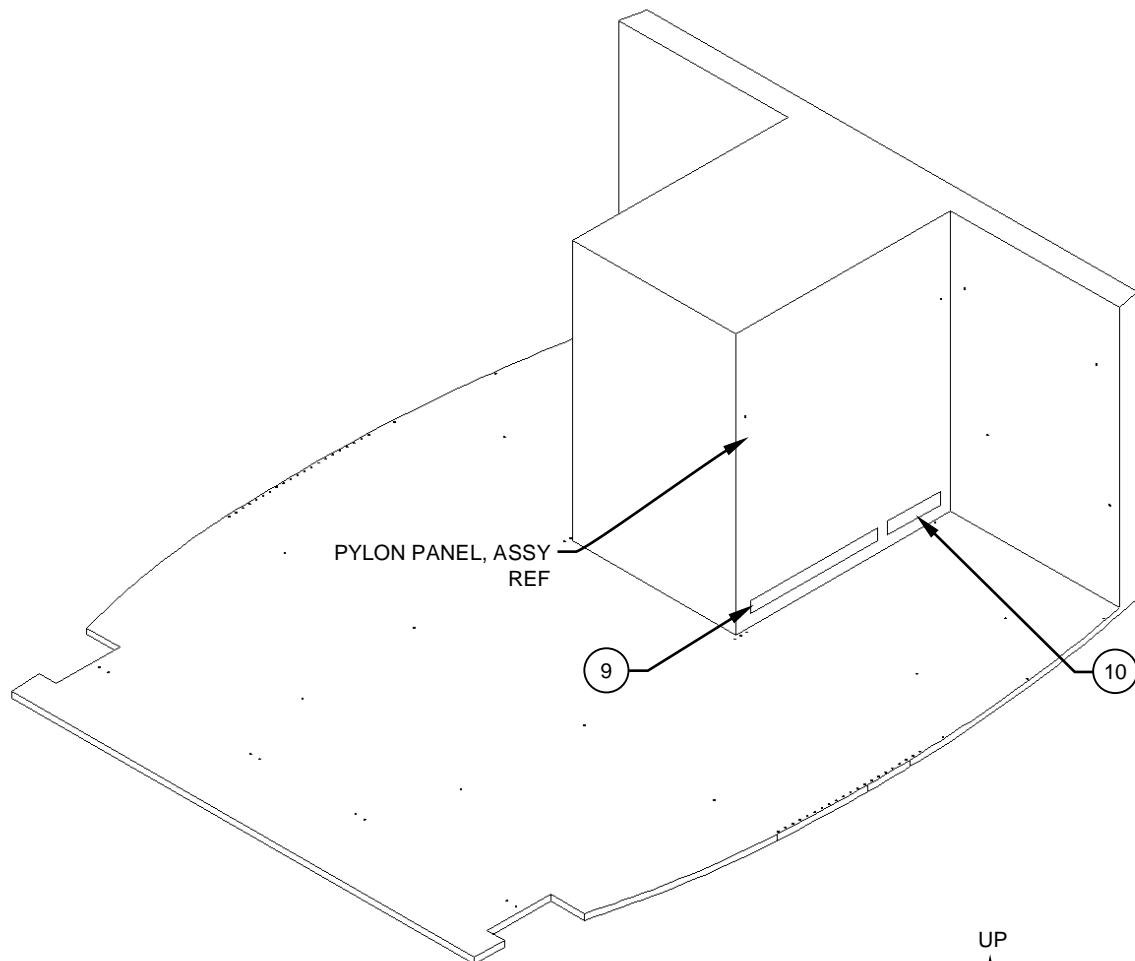

Figure 3
7. Using the felt pen marks as reference points, apply the Velcro®, Details (Items 9 & 10) to the pylon panel assy in their respective locations. Reference Figure 3. Apply adequate pressure to ensure a secure bond.